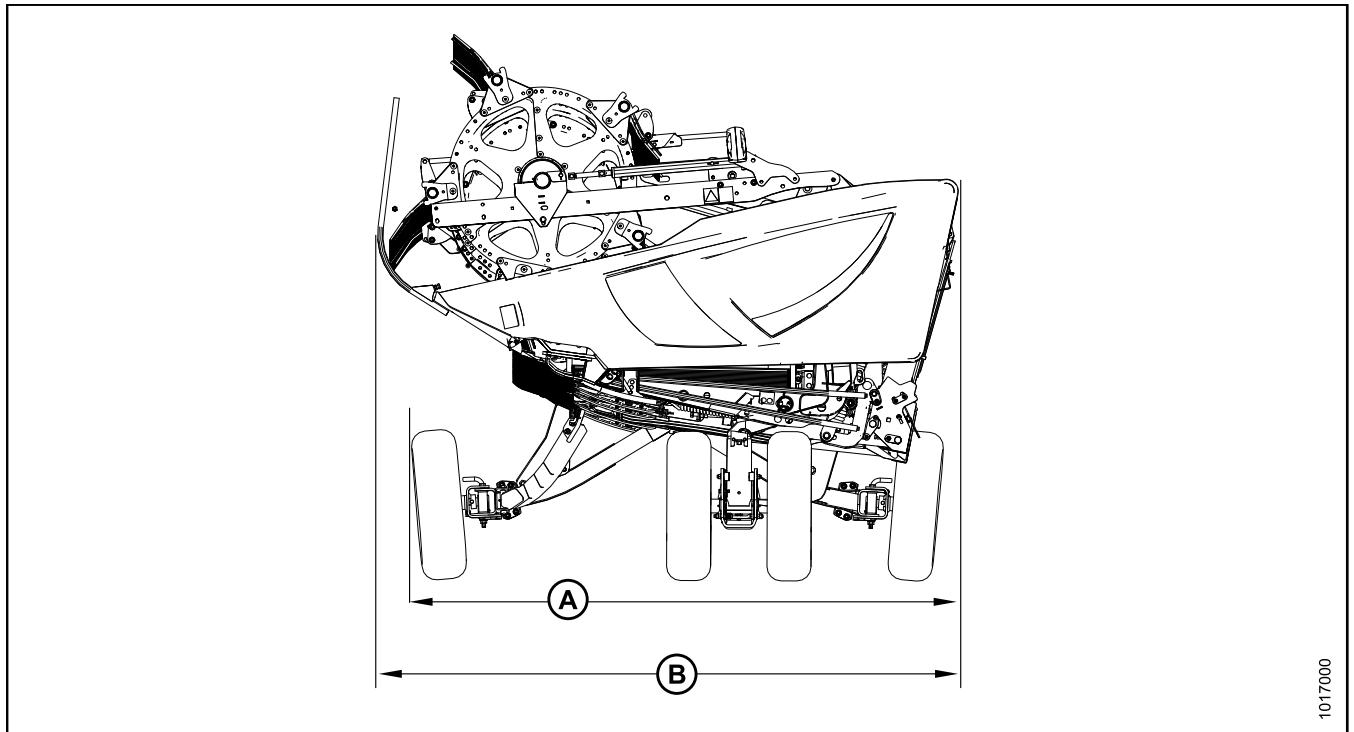

Figure 2.2: Header Width
2. Refer to Figure 2.2: *Header Width*, page 25.